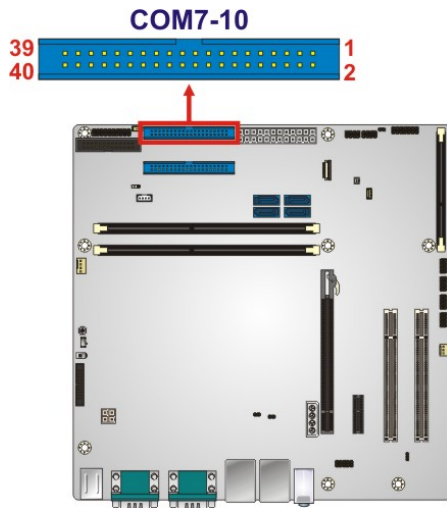

Figure 3-19: Serial Port Connector (COM7~COM10) Location
- CN Location:** See **Figure 3-19**